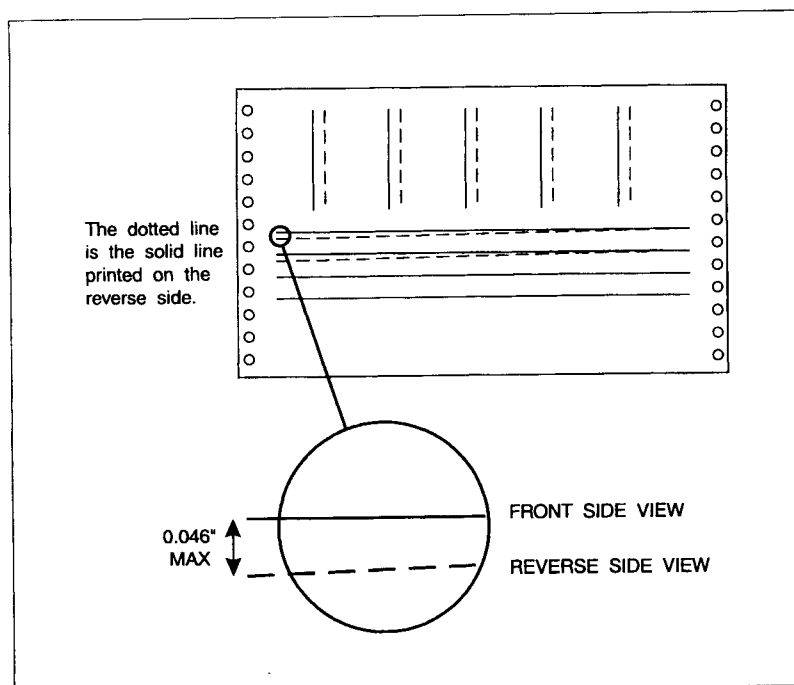

Figure C-7. Horizontal Line Measurements
11. Compare horizontal lines of Subtest 15 on each side of paper and measure the difference. (Hint, hold the paper so light will shine through it. A window will provide a good light source.) Use a graduated magnifying glass (graduated in one thousands of an inch/mm) to measure the difference (see Figure C-7).